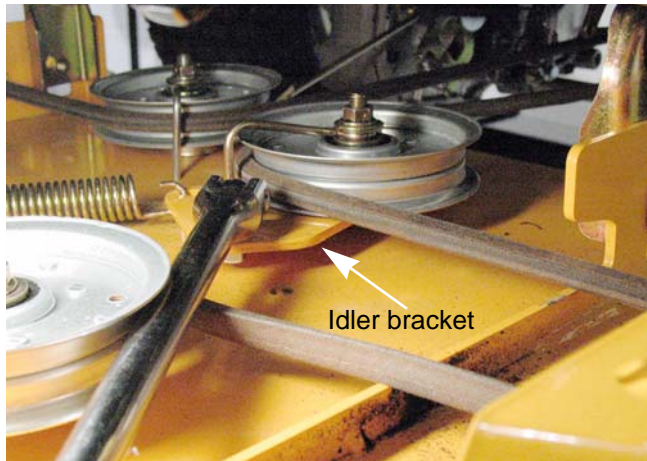

Figure 8.1
3. Insert a 1/2" drive breaker bar into the square hole in the deck idler bracket. See Figure 8.1.